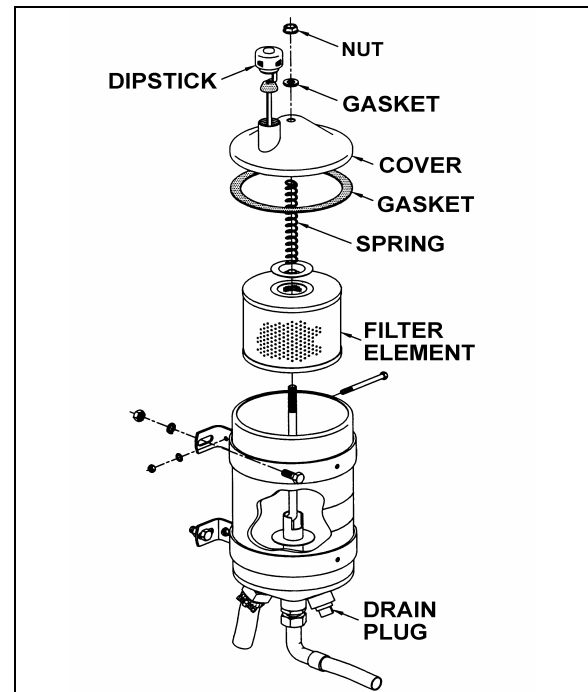

FIGURE 8: POWER STEERING FLUID RESERVOIR 14018A
3. Insert dipstick in reservoir. Remove it again to check fluid level (Fig. 8).